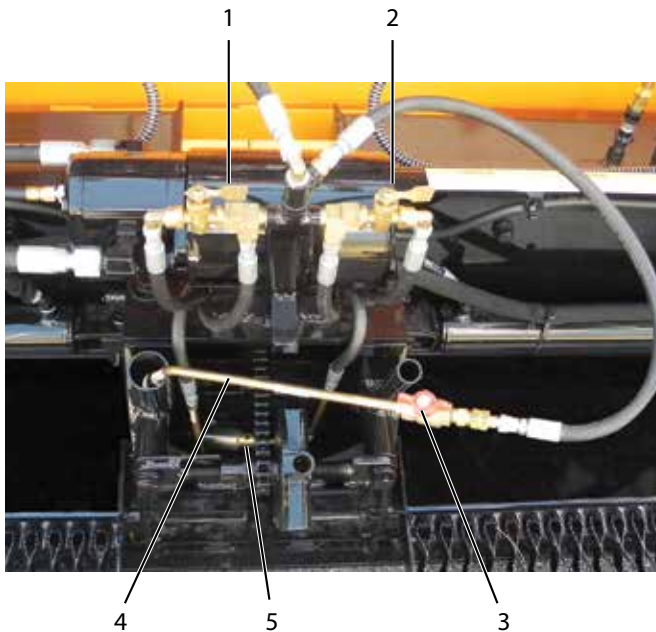
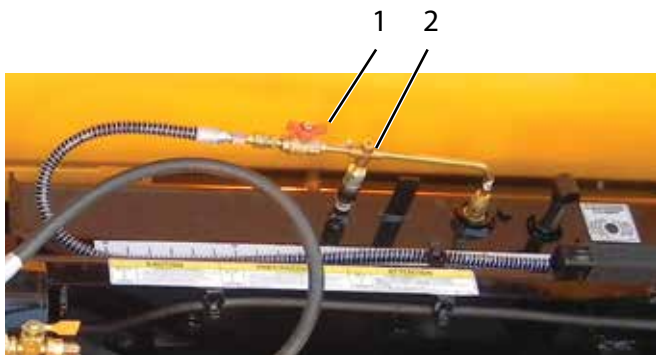

Figure 4-5. Burner Valves
Figure 4-6. Extension Burner Valve
1. Turn all burner valves at center of screed (**Figure 4-5,1,2,3**) and on both right and left side extensions (**Figure 4-6,1**) counterclockwise (CCW) to the OPEN position.
3. Light burner ignitor (**Figure 4-5,4**) as you open the ignitor valve (**Figure 4-5,3**).
4. Direct ignitor flame into hole in screed cover (**Figure 4-5,5**) and turn burner valve to ON position.
6. The extension burners are held in position to the screed with a quick coupling connection. Remove the extension burner from coupling connector and light (**Figure 4-6,2**).
8. Turn off burner ignitor valve (**Figure 4-5,3**).
2. Once flame goes out completely, turn the burners off by turning the burners valves (**Figure 4-5,1,2,3**) clockwise (CW) to the CLOSE position.